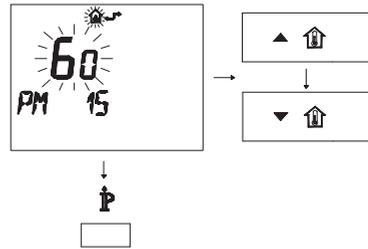

Fig. 7.14
- Modify the programmed SET by acting on buttons  or  until a **setting of 60** is displayed, wait for the number programmed to flash (Fig. 7.14).